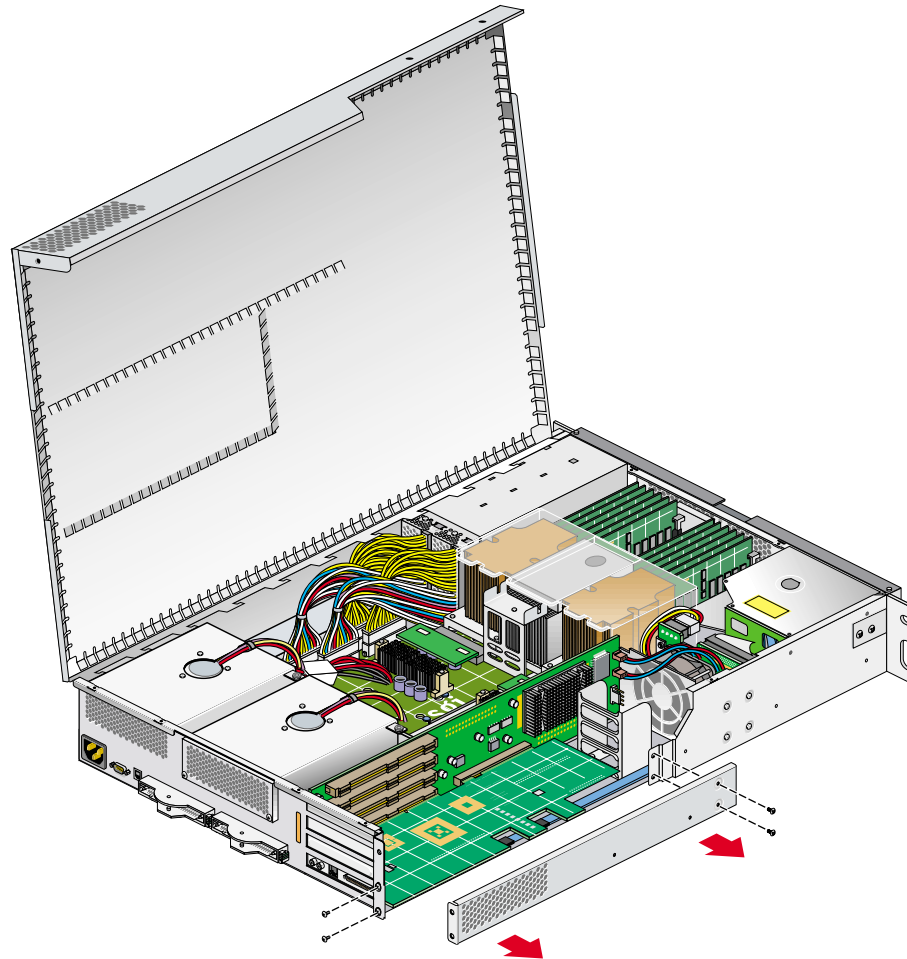

Figure 3-5 Removing the Lower PCI/PCI-X Support Bracket
9. If you are installing a card in one of the two lowermost card slots, you must remove the lower PCI/PCI-X support bracket that covers the two lowermost slots, as shown in Figure 3-5, by removing the four Phillips screws.